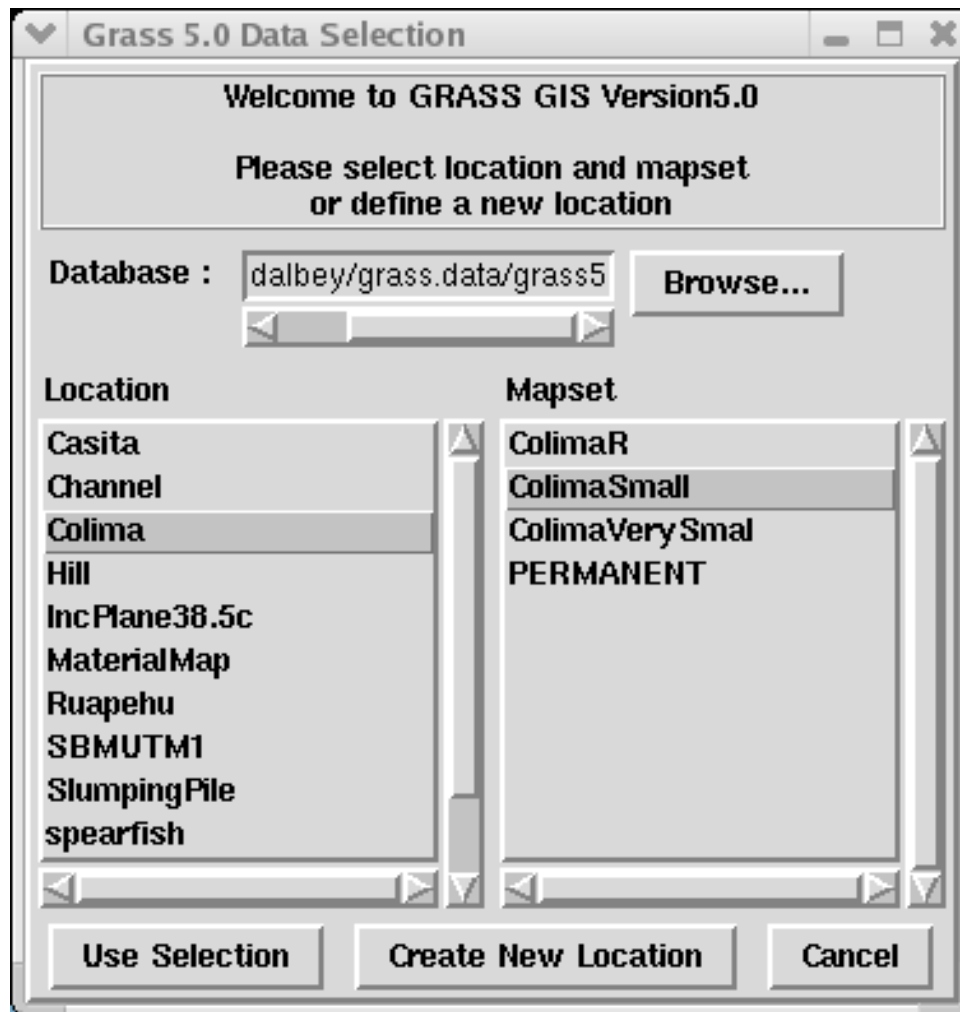

Figure 3.10: GRASS GIS map-set selector window
3. Specify the location of the GRASS mapset by clicking on the desired DEM file name in the pop-up window (figure 3.10).